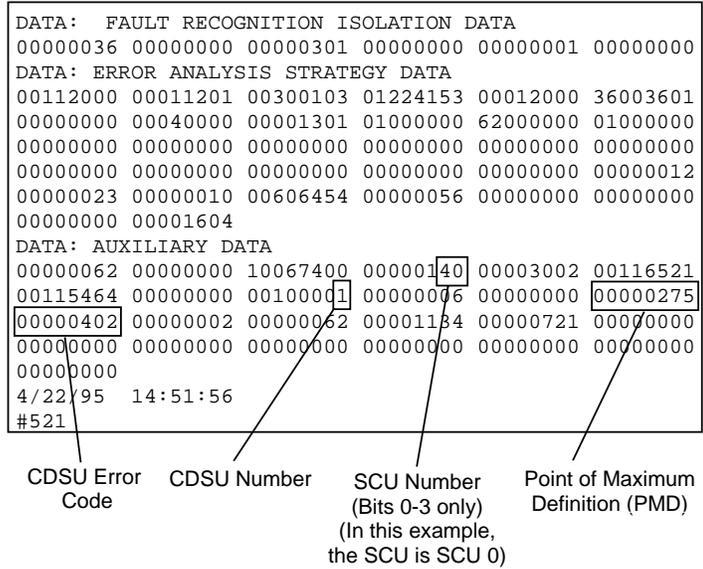
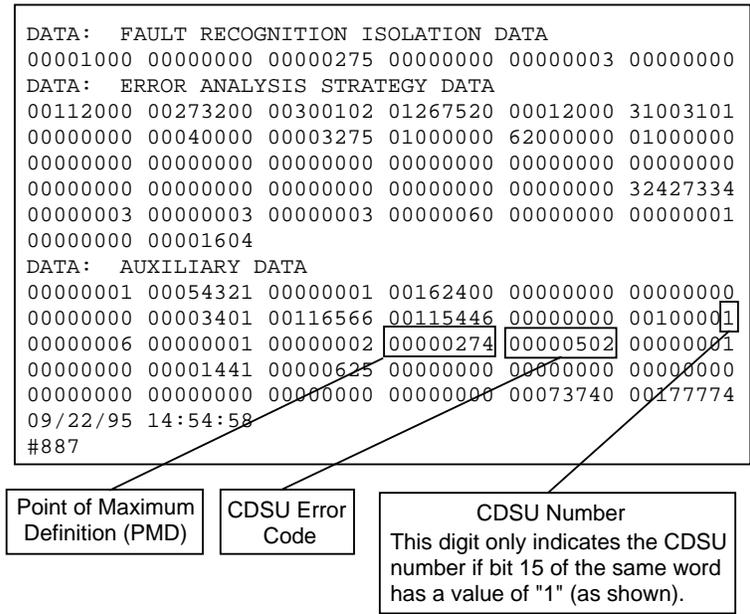

Figure 1. Part of the BLM Printout
Figure 2. Part of the SCU Interject Printout
1. Use Figures 1 and 2 to determine the CDSU-I error code and CDSU-I number.
Figure 1 shows a sample BLM printout with the location of the error code, CDSU-I number, and SCU number. Figure 2 shows a sample SCU interject printout with the location of the error code and CDSU-I number.
Figures 1 and 2 also show the location of the Point of Maximum Definition (PMD). The following PMDs indicate possible CDSU-I problems: